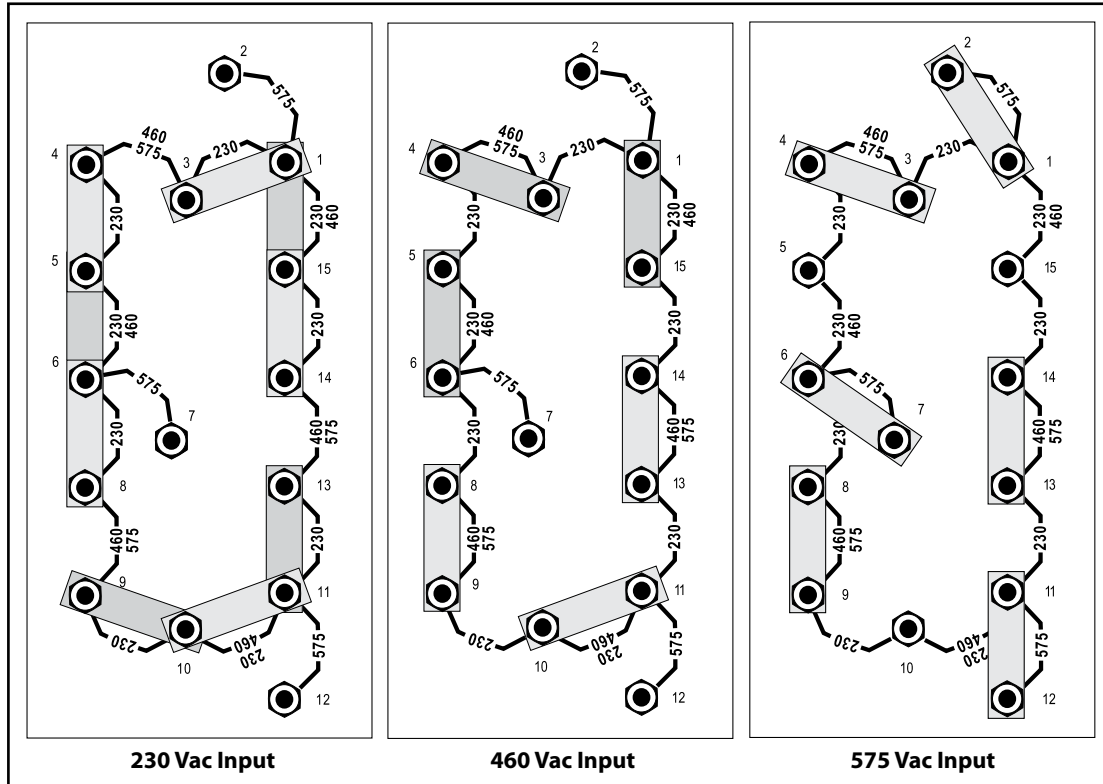

Figure 3-2. Input Terminal Board Configuration for 230/460/575 Model (factory supplied in the 575 configuration)
- E. Figures 3-2, 3-3 & 3-4 illustrate the input voltage terminal board and the input voltage link connections. The particular voltages from which this power source may be operated are stated on the rating plate. The voltage links were factory set for highest voltage stated on the rating plate. If the power source is to be operated on another stated input voltage, the links must be reset for that particular input voltage. Always verify the input voltage and check the link arrangement regardless of factory setting. The voltage links are set up by reconfiguring the copper link bars to the voltage designations for the desired voltage.